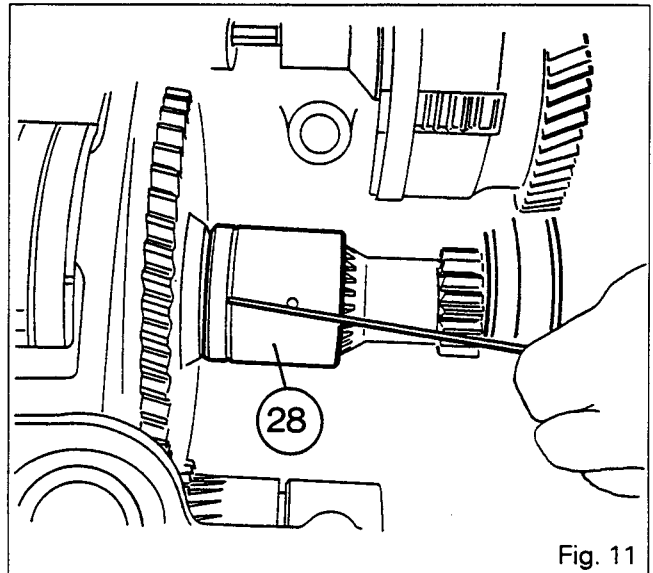

Fig. 11
**Note : Position the grooved end of the sleeve (28) towards the rear of the tractor (Fig. 11).**
**The long double pin is fitted in to the sleeve (27).**